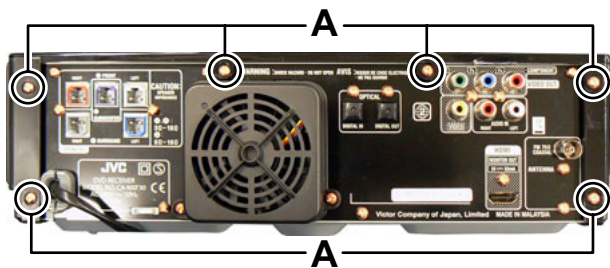

Fig.1
#### 3.1.1 Removing the Top cover (See Fig.1 to 3)
- (1) Remove the six screws **A** attaching the Top and Right cover. (See Fig.1)